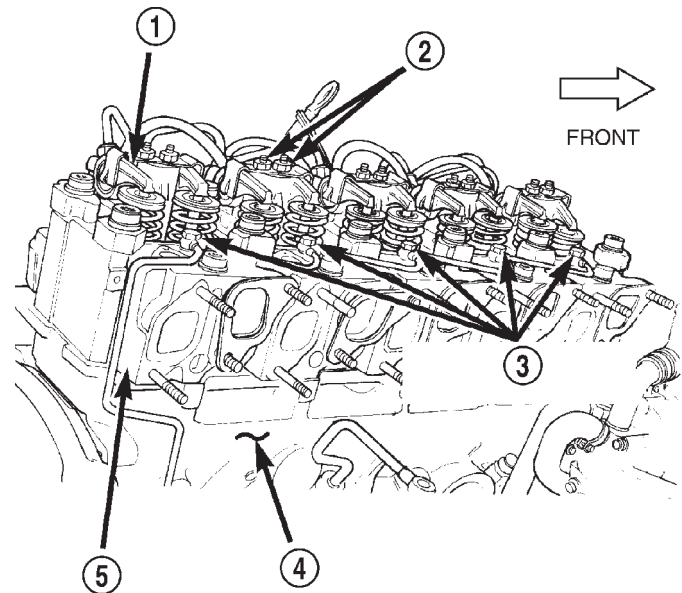

Fig. 68 Oil Feed Lines
(12) Central bolts A-L: Completely back off bolts one-by-one and then retighten to 30 N·m plus 130° (±5°). Then proceed in the same way, bolt by bolt, following alphabetical order, as indicated.
(13) Side bolts M1-M2: **Without slackening**, torque bolts M1 then bolts M2 to 90 N·m (66 ft. lbs.).
(14) Torque intake nuts to 28 N·m (20 ft. lbs.) and exhaust manifolds nuts to 32 N·m (24 ft. lbs.) after completing the cylinder head torquing procedure.
(15) Install the oil feed lines for the rocker arm assemblies. Torque oil feed lines to 13 N·m (115 in. lbs.) (Fig. 68).